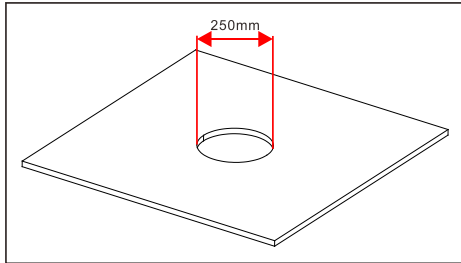
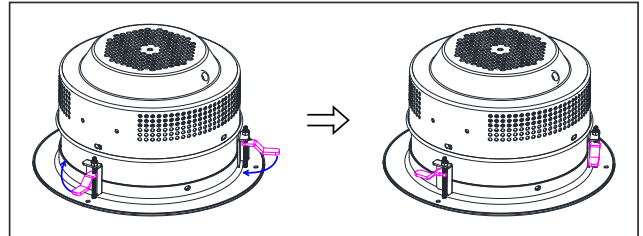

fig.1
fig.2
1. Drill a circular hole with a diameter of 250mm in the ceiling (fig.1). Adjust the three movable fixing plates of the luminaire inward and stick to the luminaire shell (fig.2).